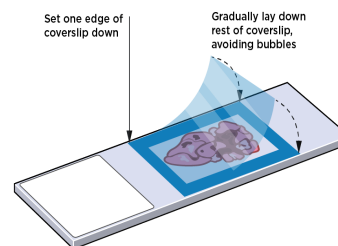

Figure 53: Apply Incubation Frame Cover
Start by adding the hybridization solution to bottom most part of the tissue within the frame. Applying the incubation frame cover will help move the hybridization solution across the tissue (Figure 53).
- **Carefully apply incubation frame cover** (Figure 53). Start by setting one edge of the chamber down on the incubation frame edge, then gradually lay down the rest of the cover. Press around the edges of the cover (along the border of the incubation frame) to ensure good adherence. **Do not press the center of the cover as it could damage the tissue.**